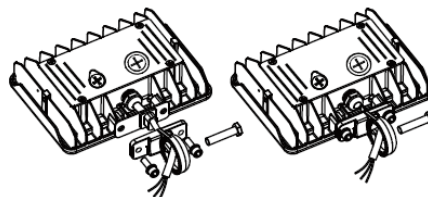

Figure 8
- 6: Fish wire through first half of arm. (Figure 8)
- 7: Screw first half of arm to fixture using supplied hardware. (Figure 8)